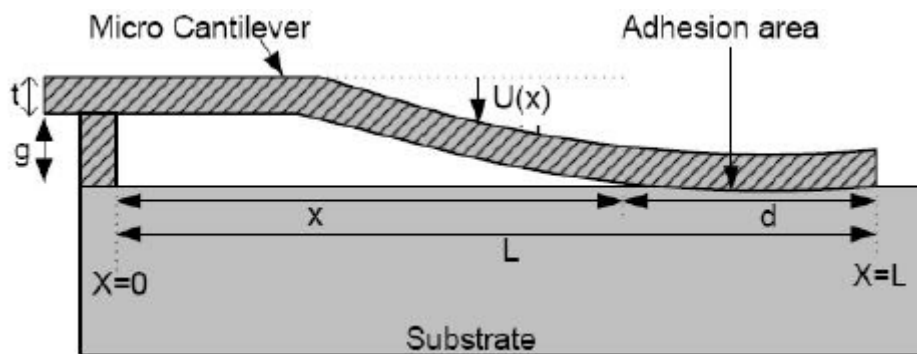

Figure 5[b]
- [b] Figure 5[b] shown a schematic diagram of failure in the fabrication process of microcantilever polysilicon structures.